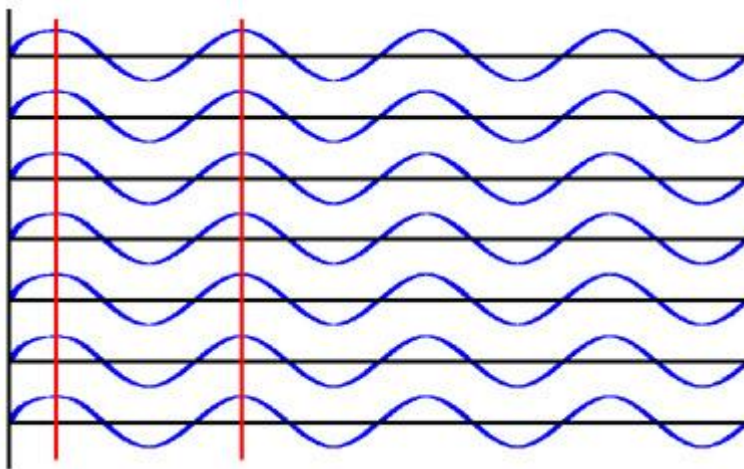

Fig. 6
(15) Figure 6 illustrates the light waves within a highly collimated laser beam. All of these individual waves are in step, or "in phase," with one another at every point. "Coherence" is the term used to describe the in-phase property of light waves within a beam. (Mike Leeming)